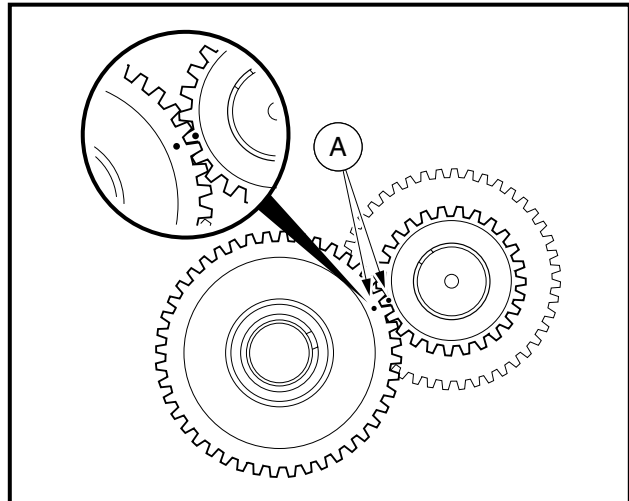

Figure 13-47 Timing Mark Alignment
1. Keep the timing marks (A) aligned during removal (**Figure 13-47, Page 13-25**).